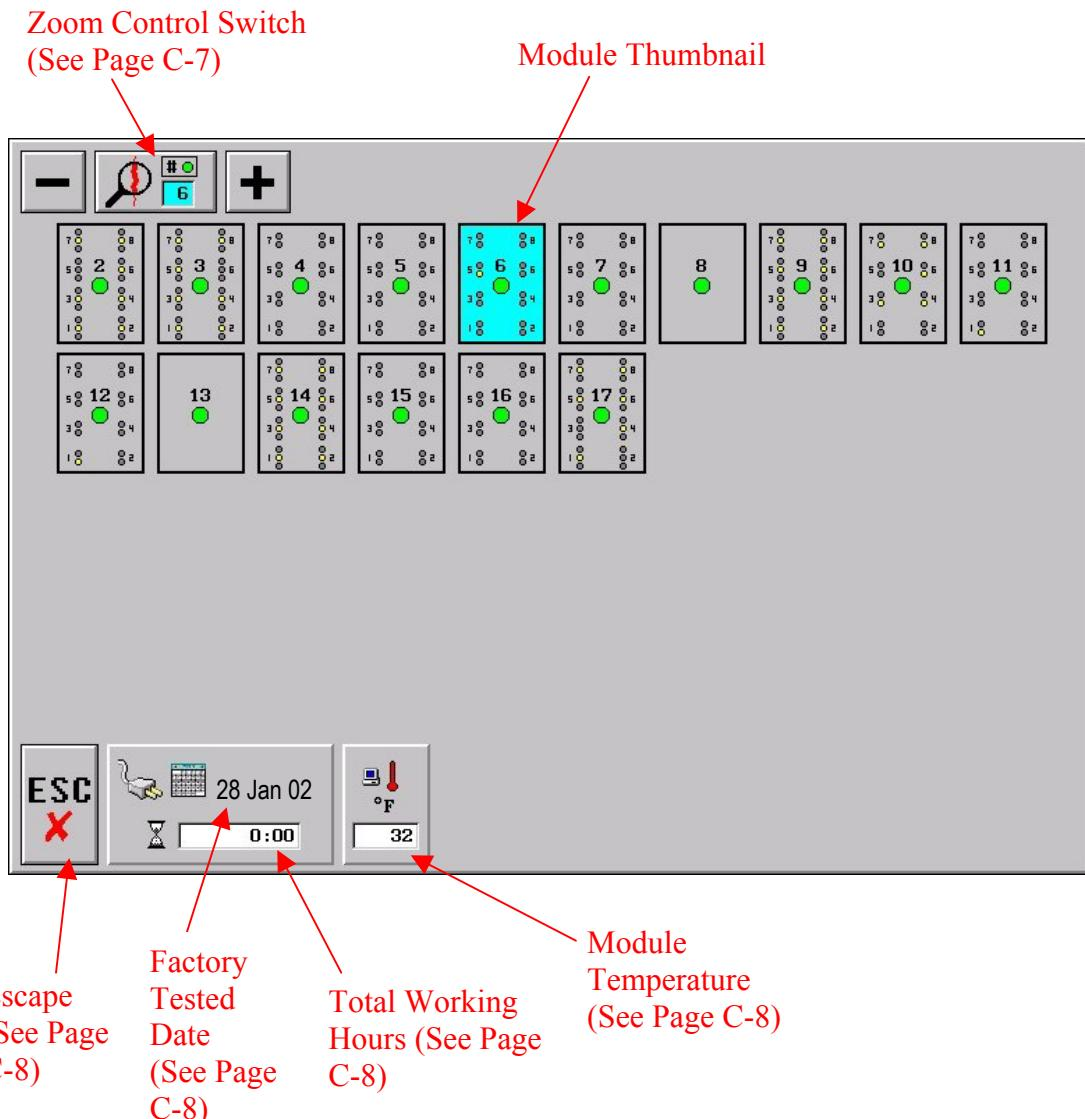

Fig. C-11
**See Page C-9 (Fig. C-11) for Details**